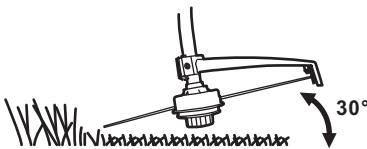

Fig.14a
- > Hold the cutting head just above the ground at an angle of approximately 30° (Fig. 14a).